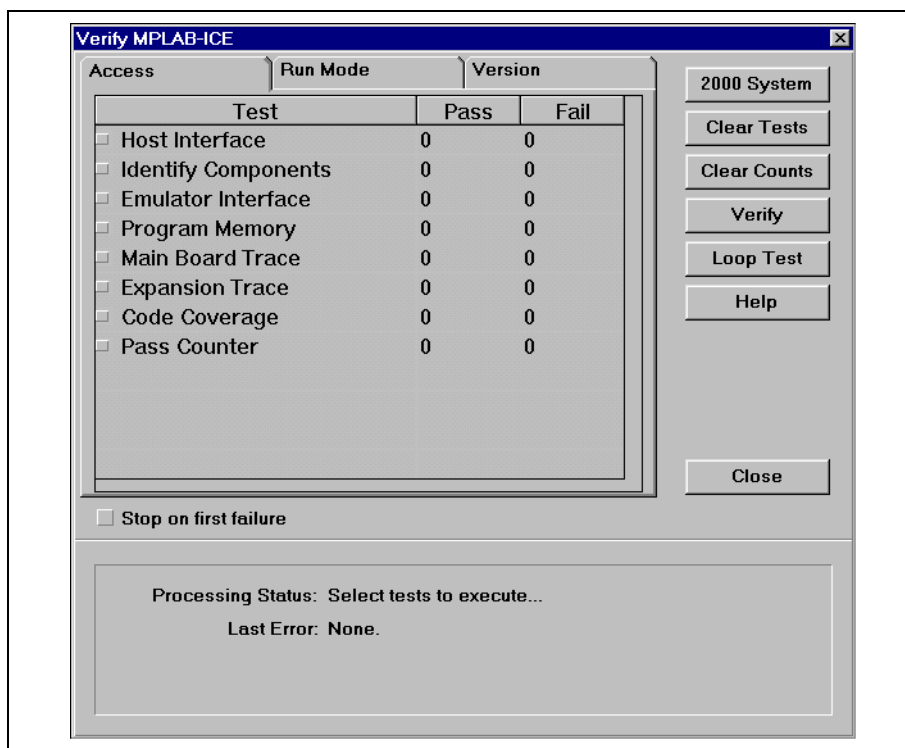

Figure 7.2: Verify MPLAB ICE – Access Tests
- Access tests – Checks basic access to and static functionality of the system (Figure 7.2).